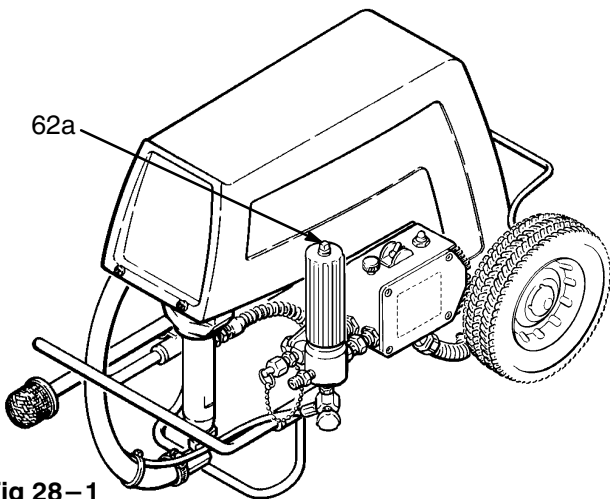

Fig 28–1
2. Refer to the above list of tools and equipment needed. Remove the plug (62a) from the top of the fluid filter and install the fluid-filled pressure gauge. Refer to Fig 28–1. Connect the gun to the **new** test hose and connect the hose to the sprayer outlet.